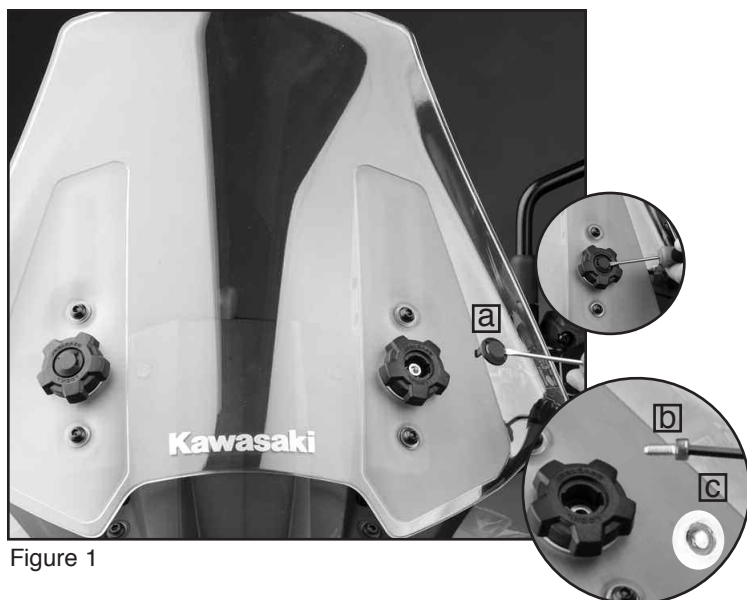

Figure 1
2. Remove the 2, Caps (a) Screws (b) and Washers (c) holding the Adjustment Knobs in place. (Flat Blade Screwdriver, 5mm Hex Key) Figure 1